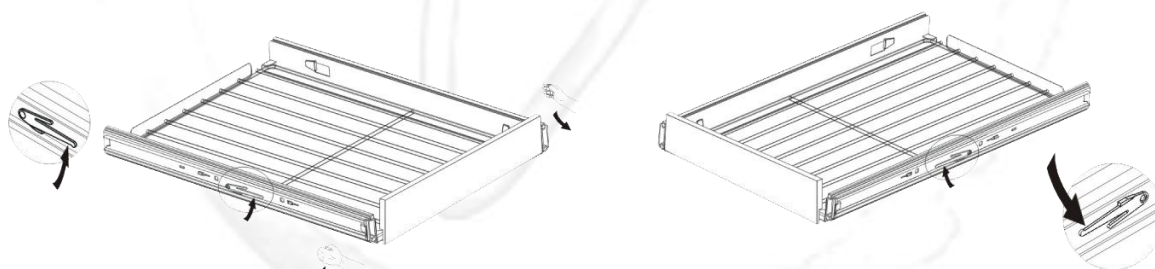

Figure 1
2. Pull the racks out flatly and press the button on each side (see figure 1).